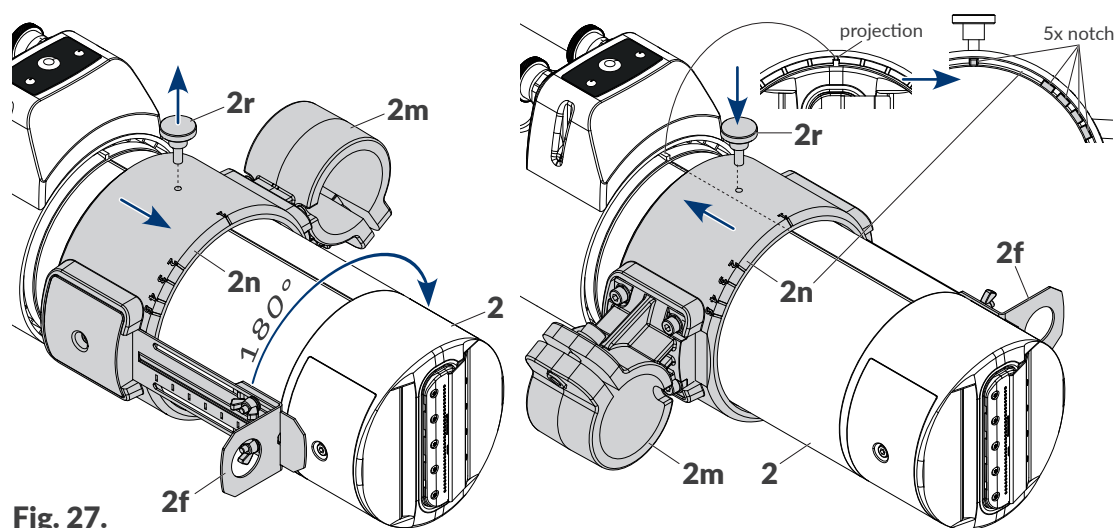

Fig. 27.
- Rotate holder **2n** through 180° (see Fig. 27 on page 31).
The degree of turning shown in Fig. 27 is **1** (the printhead is unturned).